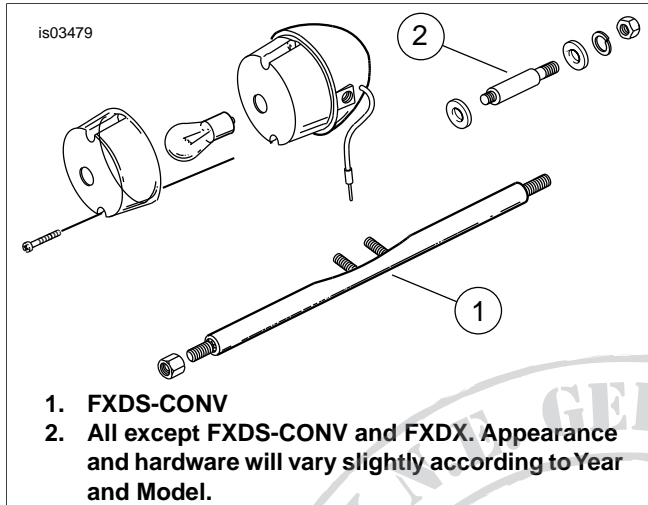

Figure 5. All (Typical Tube-Style Supports)
For XL models equipped with Tube-Style Supports, See Figure 5 for installation instructions.
For Dyna Models equipped with Tube-Style Supports, See Figure 5 for installation instructions.
For Softail models equipped with Tube-Style Supports, See Figure 5 for installation instructions.
3. See Figure 5. Remove lamp housing from turn signal support. Save hardware. Discard lamp.